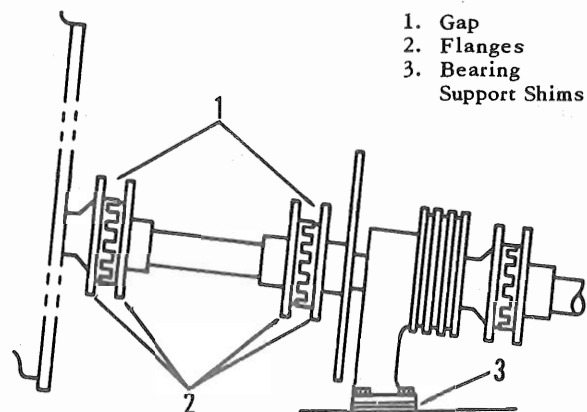

Figure 4-15. Alignment of Sections I and II of Tail Rotor Drive Shaft
e. Measure gap (1, figure 4-15) across flanges (2) at four places 90-degrees apart with micrometer. Record these measurements.
g. Maximum difference between any of the eight measurements must not exceed 0.032 inch. Necessary vertical adjustment may be made by shimming at (3) under bearing support for section II of drive